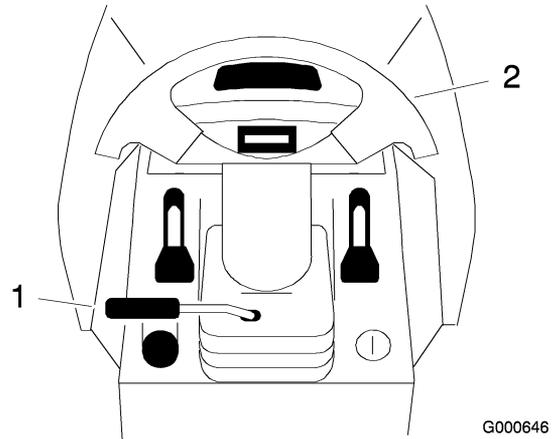

Figure 26
1. Lift the tilt lever to release the lock (Figure 26).